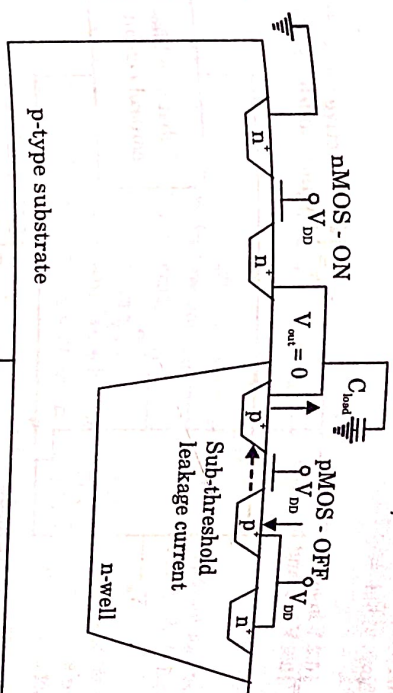

Fig. 4.14.2.
- Sub-threshold current can occur even when there is no switching activity in the circuit as shown in Fig. 4.14.2.